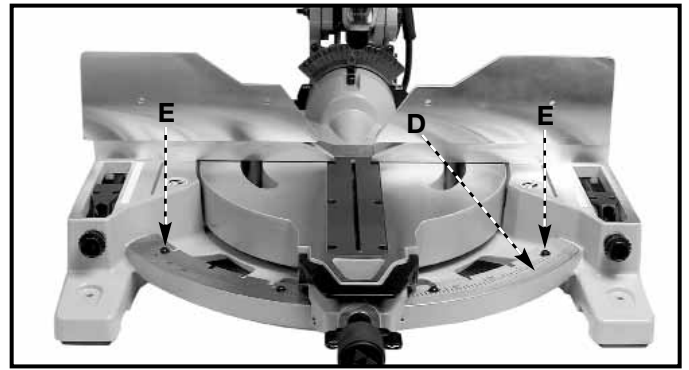

Fig.6
NOTE: This saw incorporates a new slotted plate design feature (D) Fig. 6 with location adjustment screws (E) for fine-adjusting the cutting angle.